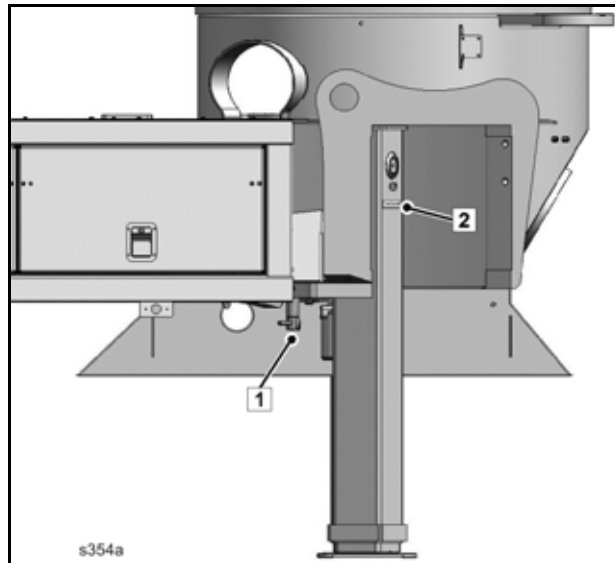
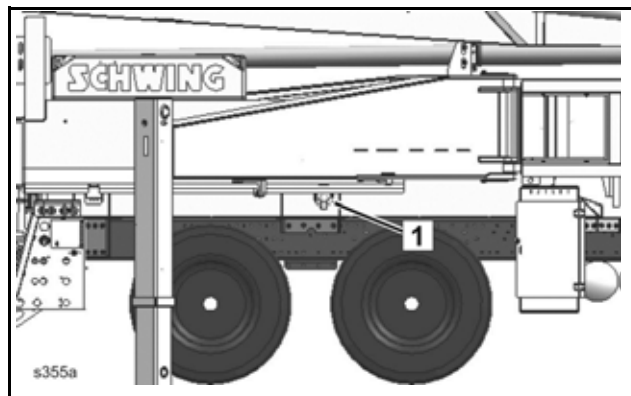

Fig. 136 Front transport safety device outrigger
Fig. 137 Rear transport safety device outrigger
- Remove the transport safety devices (1) from the front (**Fig. 136**) and rear (**Fig. 137**) outriggers.